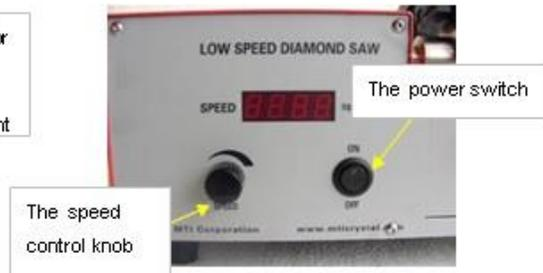

Figure 7
- 5.3.10 Turn the main power switch ON by depressing the switch (Fig. 7).
- 5.3.12 Adjust the speed using the speed control knob on the front panel. (Fig. 7, the higher speed is better for low hardness material)